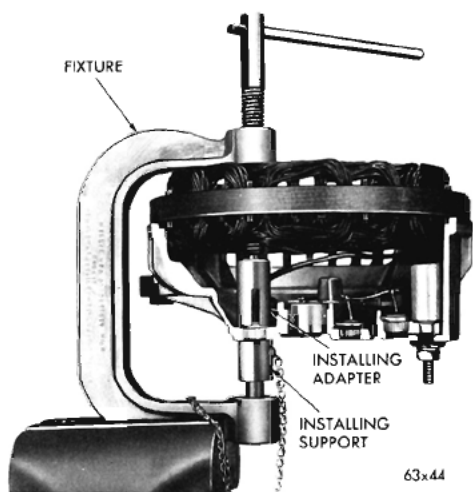

Fig. 35—Installing a Rectifier
(1) Check the rectifier identification to make sure the correct rectifier is being installed. Refer to the Parts List for rectifier identification.
(2) Start the rectifier squarely into the mounting hole.
(3) Support the heat sink or rectifier and shield on the installer adapter of Tool C-3928. With the installing adapter positioned on the rectifier, carefully apply pressure with the tool pressure screw until the installer tool, rectifier, rectifier end shield or heat sink are in alignment and after determining that the rectifier is started squarely in the casting, slowly apply pressure with the tool pressure screw until you feel the collar of the rectifier bottom against the casting (Fig. 35).